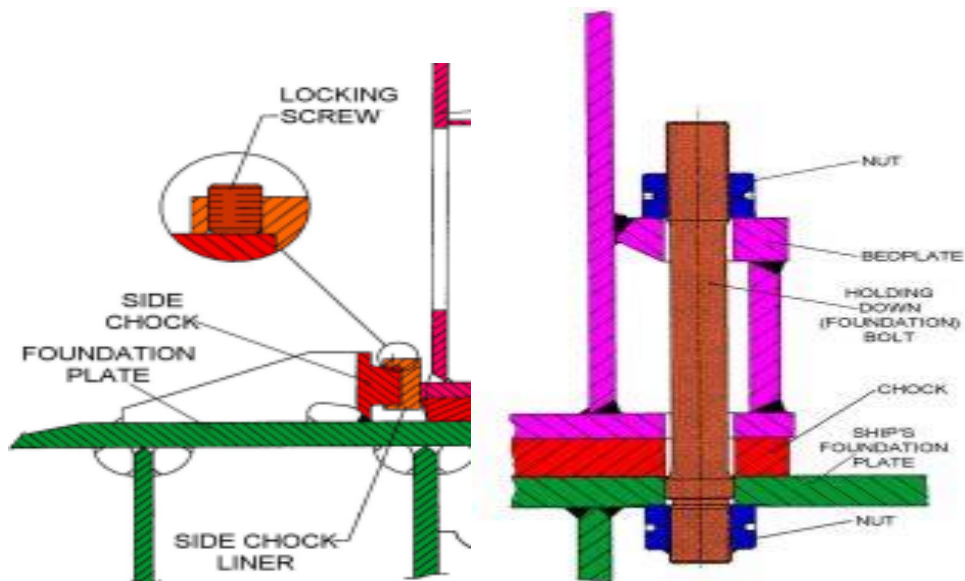

Figure 2: Positioning and fitting of chock and, nut and bolt.
6. This is a side chocking arrangement, where after driving the liner home, locking screws are hardened down as shown in Figure 2 above.